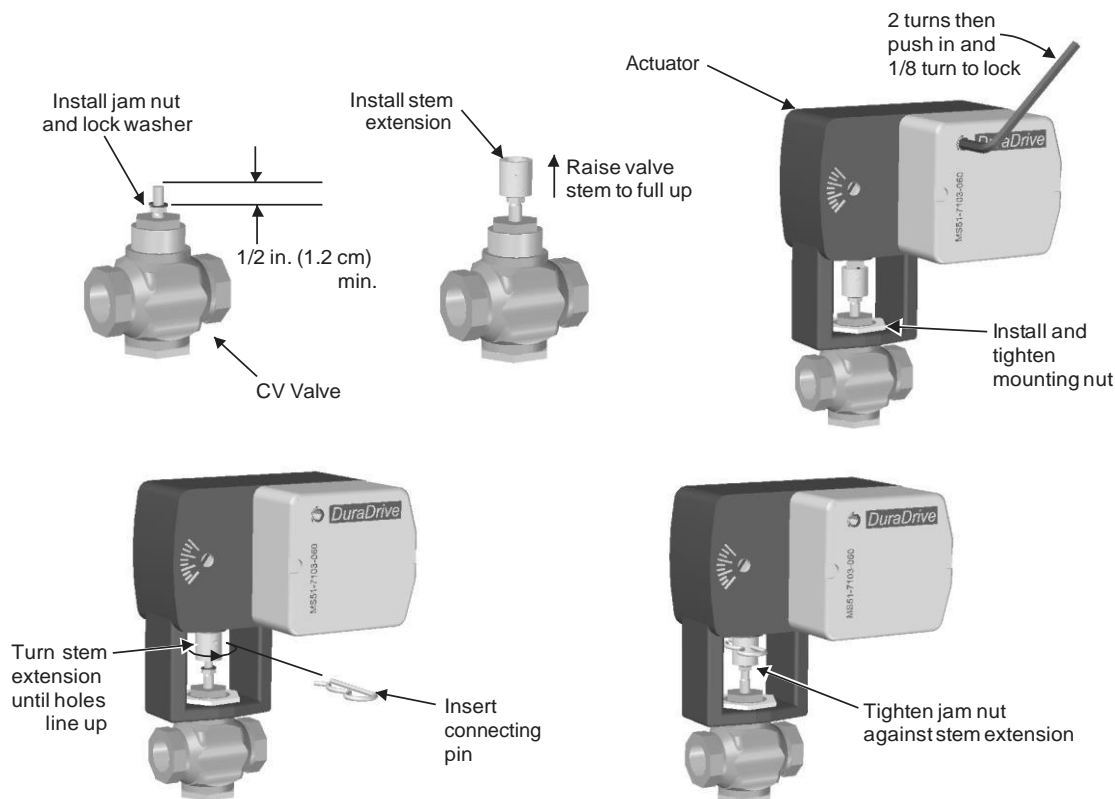

Figure 11: CV Valve Actuator Installation
- Install the CV valve actuator following the procedure in Figure 11: CV Valve Actuator Installation after the CV valve is installed on the steam line. Wire the actuator as described in CV Valve Actuator Wiring on page 29.